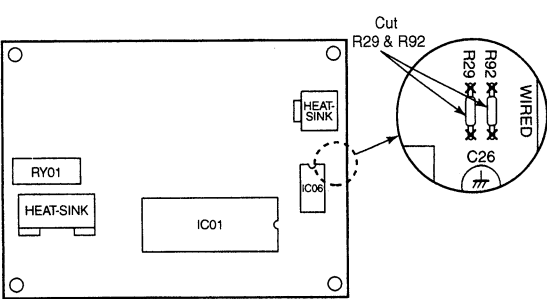

Fig.4
4. Cut the resistance R29 and R92 on the main P.C. board. (Fig.4)